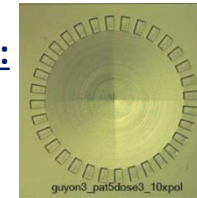

Figure 7 . Achromatic Focal Plane Masks (AFPM)
- Achromatic focal plane masks with deep diffractive structures (Fig 7)